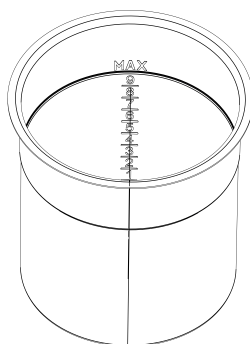

fig. 1
- Respect the MAX level indicator. (Fig.1).